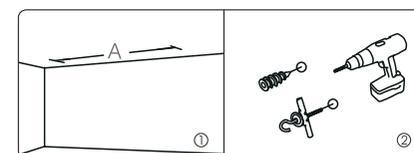

Figure 1
1. Push inside 2  $\phi 10$  screws with hook (not supplied), make sure they are fastened ( Figure 1 ).